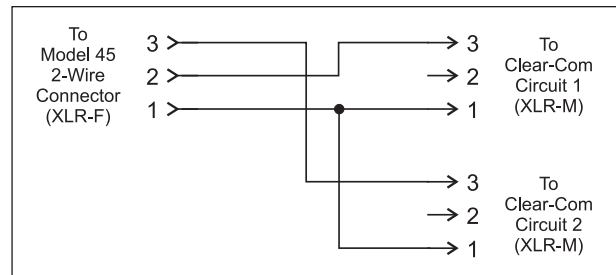

Figure 5. Adapter cable wiring diagram
In some single-channel 2-wire party-line intercom system applications it may be desirable to take full advantage of the two channels associated with the Model 45's interface. The Model 45 can certainly be used in this fashion, but an adapter will need to be prepared. The recommended connection method is to create an adapter that "splits" Model 45's 2-wire (PL) intercom connector into two 3-pin XLR connectors, one for each audio channel. The adapter should use one female and two male connectors. Pin 1 of a female 3-pin XLR intended to mate with the Model 45 will connect to pin 1 of both 3-pin male XLR connectors. Pin 2 of the female XLR will go to pin 3 of the male XLR designated as channel 1. Pin 3 of the female XLR will go to pin 3 of the male XLR designated as channel 2. Refer to Figure 5 for details.